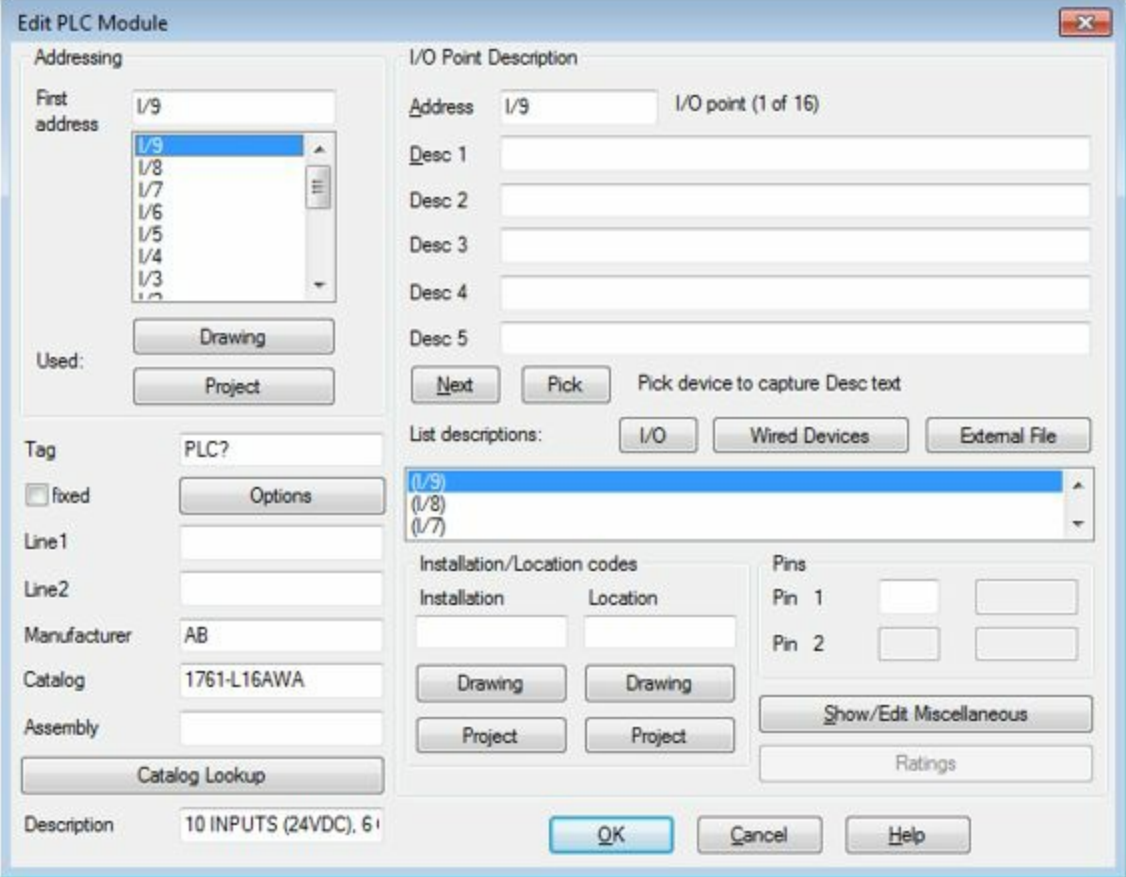

Figure-52. Edit PLC Module dialog box
- Click in the drawing area to place the PLC. The **Edit PLC Module** dialog box will be displayed; refer to Figure-52.